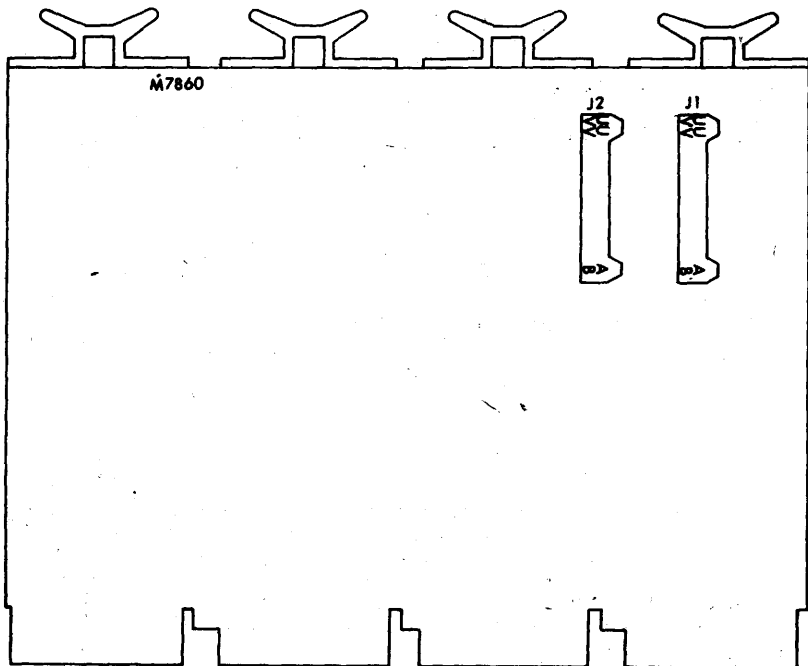

Figure 2 Connector Locations
**DEVICE SIGNALS**—Data and control signals are transferred between the devices and interface by two cables that attach to connectors J1 and J2. The location of the connectors on the module is shown on Figure 2. Table 1 lists the pin assignments of each connector and the signal drive or loading capability.